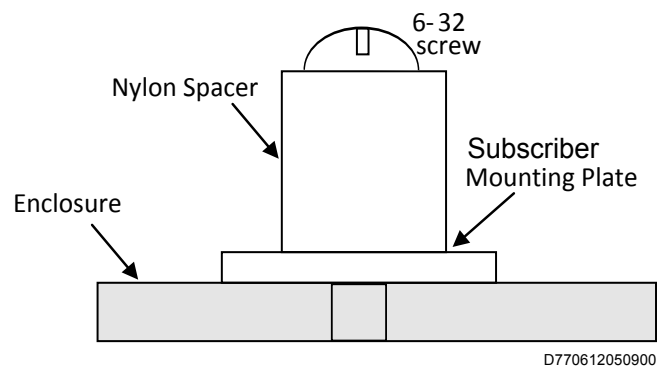

Figure 11. Subscriber Mounting Plate Standoff Hardware Assembly
6. Install the subscriber mounting plate first in the cabinet. Tilt the subscriber mounting plate so it slides in between the cross-beam and the two mounting tabs for the main circuit board panel. Use the nylon spacers and screws as shown in Figure 11 below to secure the subscriber mounting plate to the cabinet: